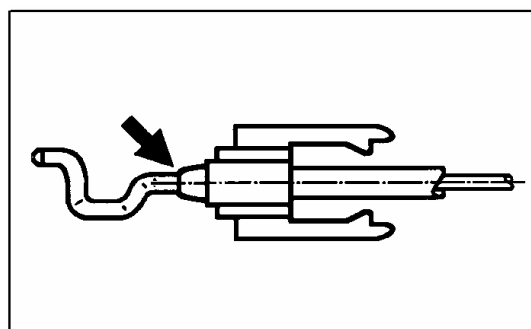

Figure 3
- The hook of the bowden cable is pressed into the end piece of the cover for protection during transport and assembly (Fig. 3, arrow).